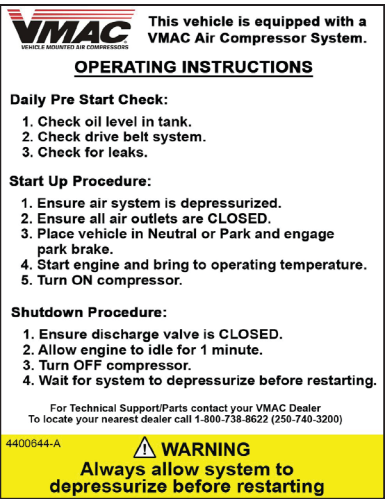

Figure 73 — Operating Instruction label
- ☐ As part of the installation process, ensure that the safety and operational instruction decal is affixed in an obvious location so that it can be seen by vehicle operators. A good spot for this is usually on the inside of the door or on the panel underneath the steering wheel (Figure 73).